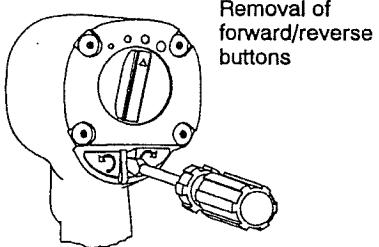

Figure 9
**NOTICE:** The Reverse Valve Assembly cannot be removed without first removing the Forward and Reverse Buttons (39) and (40). Therefore, it is important that the procedure below be followed exactly.
1. Notice the notches on either side of the partition. These notches indicate the correct location for insertion of a thin-bladed screwdriver used for removing the Forward and Reverse Buttons. Insert the screwdriver between the partition and the Button which is fully extended. Gently pry against the Button to disengage the detent so that the Button can be removed. After the Button is removed, reach inside the Housing and rotate the Reverse Valve to extend the remaining Button. Repeat the above procedure for the remaining Button. See Figure 9.